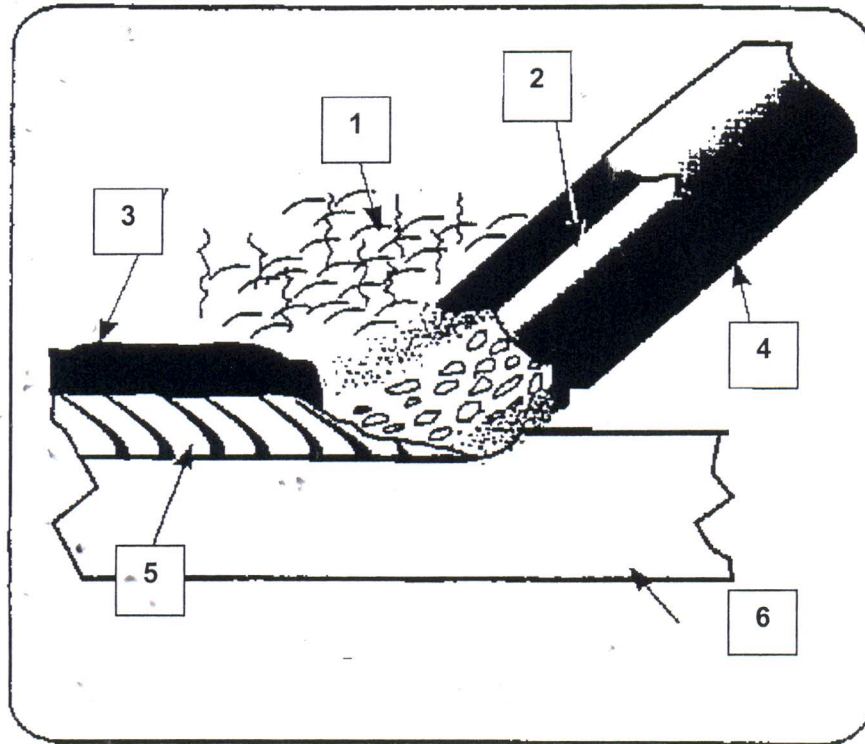

Figure 1 – Manual Metal Arc Welding (MMAW)
- (a) Label the blank space provided for an MMAW process as shown in Figure 1.